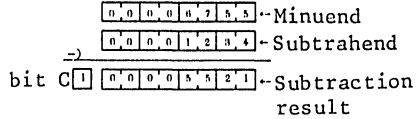

Fig. 3 Subtraction example when not using upper byte
(2) User Notes
- (a) As shown in Fig. 3, when not using upper byte, the upper byte should be held to "0", otherwise subtraction result will not be correct, because subtraction result is performed with undefined data held in the upper byte.
(3) RAM Description